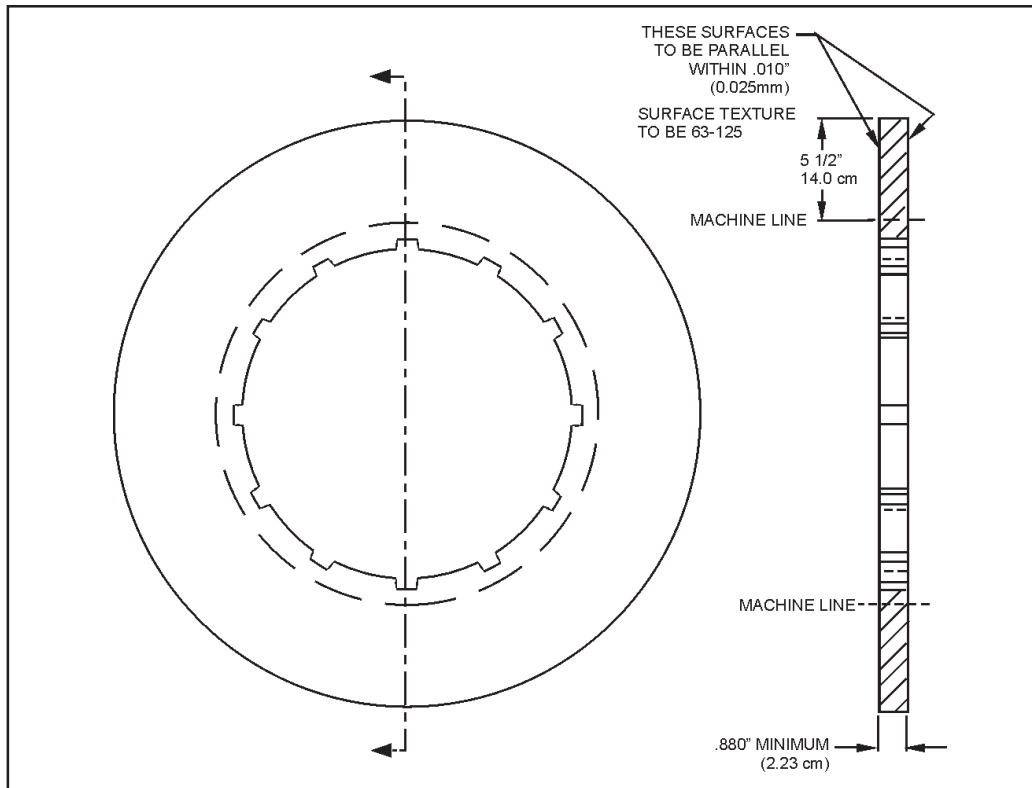

Figure 2 - Brake Disc
4. Inspect the disc for wear limits. See Figure 2, on page 2. Also, inspect the disc for deep scratches, cracks, heat checking and warping. The disc may be resurfaced as long as it remains within the published wear limits.